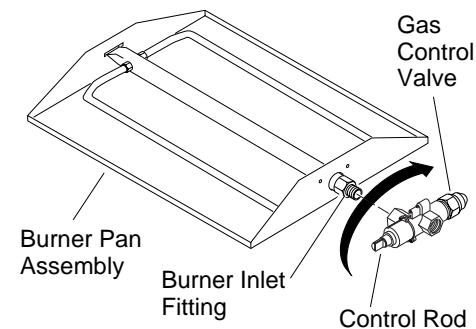

Figure 10 - Installing Gas Control Valve
1. Thread the gas control valve onto the burner inlet fitting (see Figure 10). Use thread sealant on the male threads of the burner inlet fitting. Hold the burner inlet fitting with a wrench to prevent overtightening the connection to the burner. Make sure the control rod is facing the front (see Figure 10).